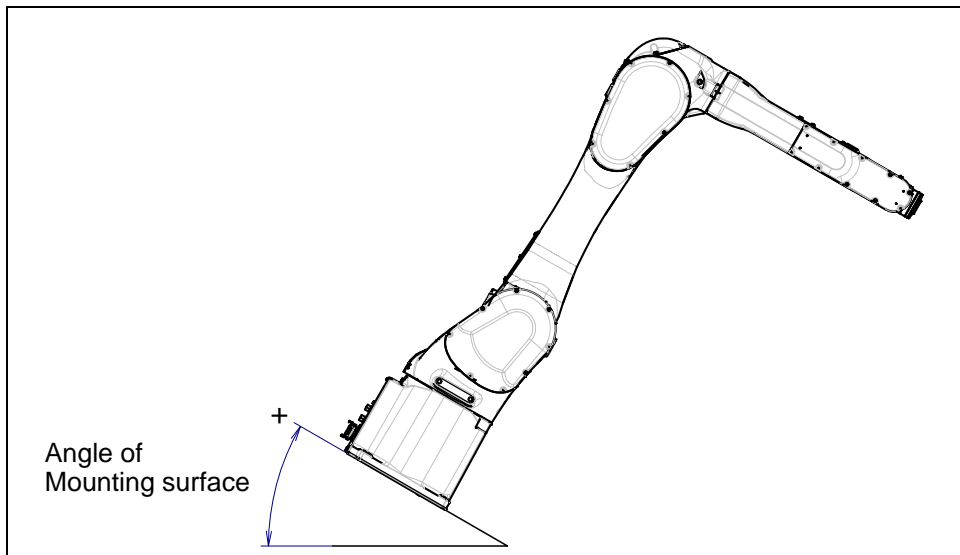

Fig.1.2.2 Mounting angle
- 6 Input mount angle referring to Fig.1.2.2.